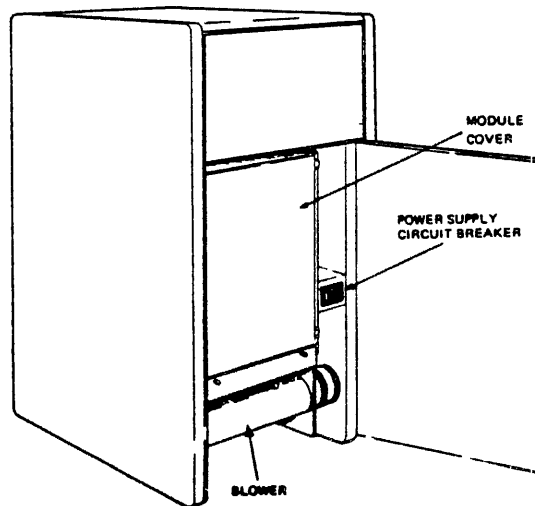

FIGURE 2-7 CABINET FRONTVIEW
7. Open the front door, turn both power supply circuit breakers to OFF (0). (See Figure 2-7.)
4. Open the front door and turn the main power supply circuit breaker (right breaker) to ON (1). See Figure 2-7.